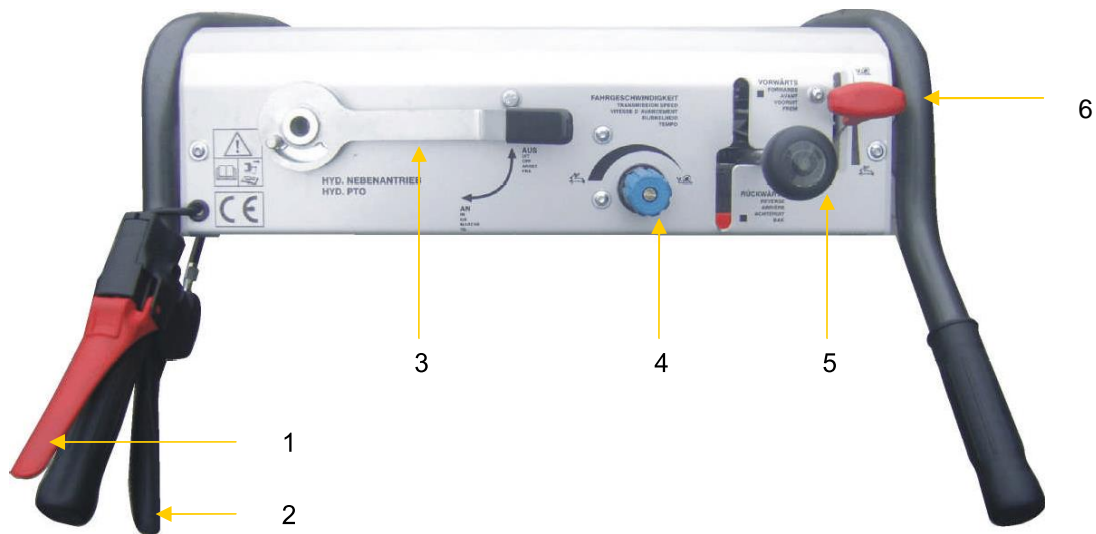

Figure 7.1
- To start the engine, the drive lever (Fig.7.1, item 5) must be in the recess of the shift gate and the lever for the PTO (Fig.7.1, item 3) in the "off" position.
- During the starting process, it is forbidden to operate the deadman switch (Fig.7.1;
- Press the throttle lever (Fig.7.1, item 6) approx.
- Press down the deadman switch (Fig.7.1, item 1) and keep it pressed. Similarly, the lower lever (Fig.7.1; Pos.2), which works like a conventional "drive clutch" of the car, pull and pulled.
- For the forward movement push the driving lever (Fig.7.1, Pos.5) upwards and for the reverse drive the driving lever downwards.
- After selecting the direction of travel, slowly release the lower lever (Fig.7.1, item 2). The faster the lever is released, the faster the machine starts to move. To spare the components, a jerky start should be avoided.
- If the machine is moving too fast or too slow, it can be changed by pressing the rotary knob (Fig.7.1;
The presetting of the speed and the preselection of the direction of travel may only be carried out when the single-axle system is at a standstill, by operating the lower lever (Fig.7.1, item 2).
- The throttle lever (Fig.7.1, item 6) influences the engine speed and thus also the driving speed. Always try to drive with the lowest speed required, this protects material and the environment.
- The auxiliary drive is switched on with the lever (Fig.7.1, item 3) "On" or "Off". This lever locks automatically.
- Before switching off the combustion engine, make sure that the drive lever (Fig.7.1, item 5) in the recess of the shift gate and the lever for the PTO (Fig.7.1, item 3) in the "off" position are located.
- Place the throttle lever (Fig. 7.1, item 6) in the neutral position and allow the engine to idle for about ½ minute.